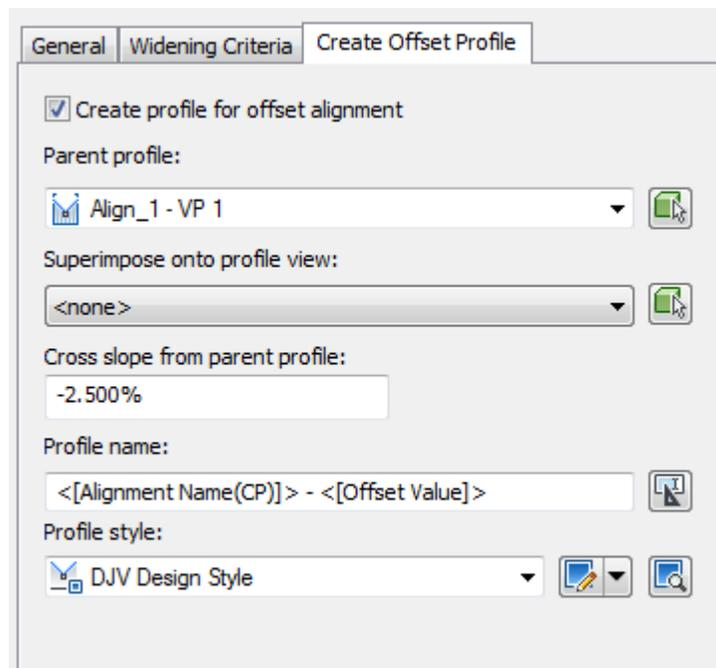

FIGURE 1 - CREATE OFFSET PROFILE DIALOGUE BOX
- Create your Offset Alignments and associated Dynamic Profiles (See Figure 1)